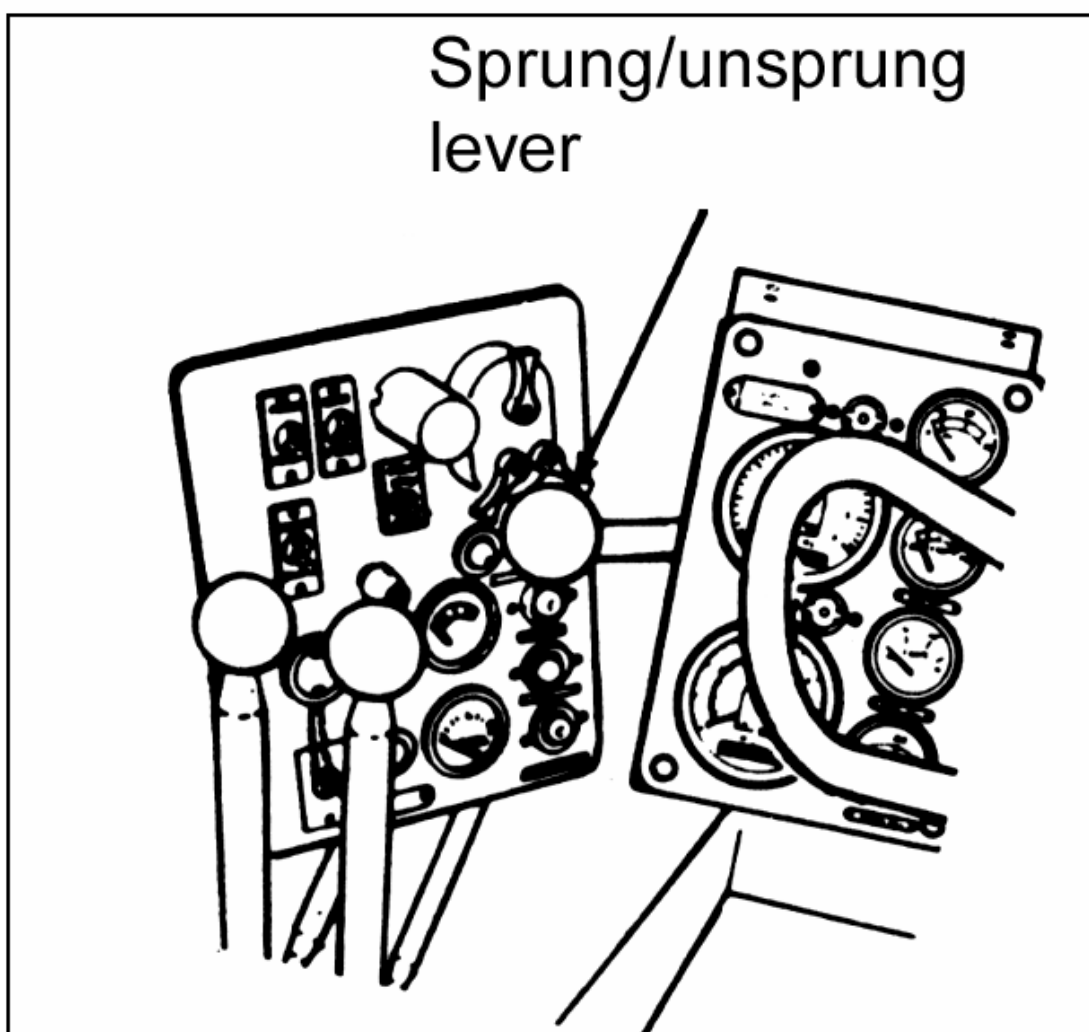

Figure 052-227-1110-1
2. Place the suspension control lever in the SPRUNG position (Figure 052-227-1110-1).